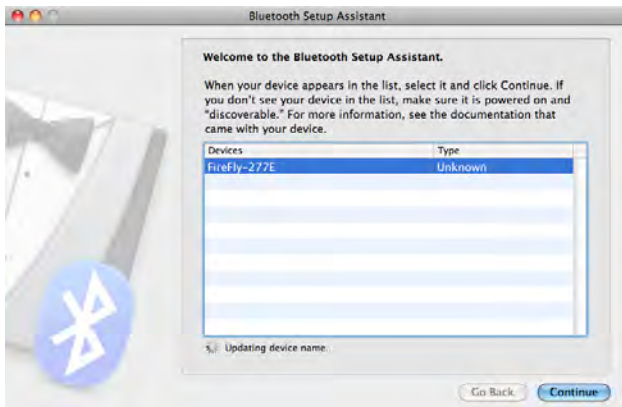

Figure 8-23. Selecting the Bluetooth Mate (FireFly) from the list of Bluetooth devices
1. Wait for the Bluetooth Setup Assistant to detect the Bluetooth Mate (it’s listed as an RN42 or FireFly device, as shown in Figure 8-23). Make a note of the name, because it will be used to name your serial port. For example, the device shown here is FireFly-277E. The serial port that’s created by this procedure is in the format `/dev/tty.DEVICENAME-SPP`, so in this case the serial port is `/dev/tty.FireFly-277E-SPP`. You’ll need to use this serial port next in “Testing the Bluetooth Connection.”